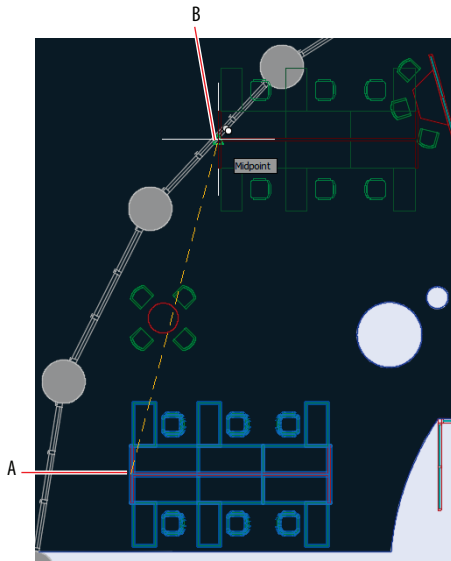

FIGURE 4.16 Copying a furniture group to a new center of rotation
4. Zoom out and focus on the upper-left quadrant of the building. Type **CO** (for Copy), and press Enter. Select the furniture group shown in Figure 4.16, and press Enter. Select midpoint A as the base point, and select midpoint B as the second point. Press Esc to end the command.